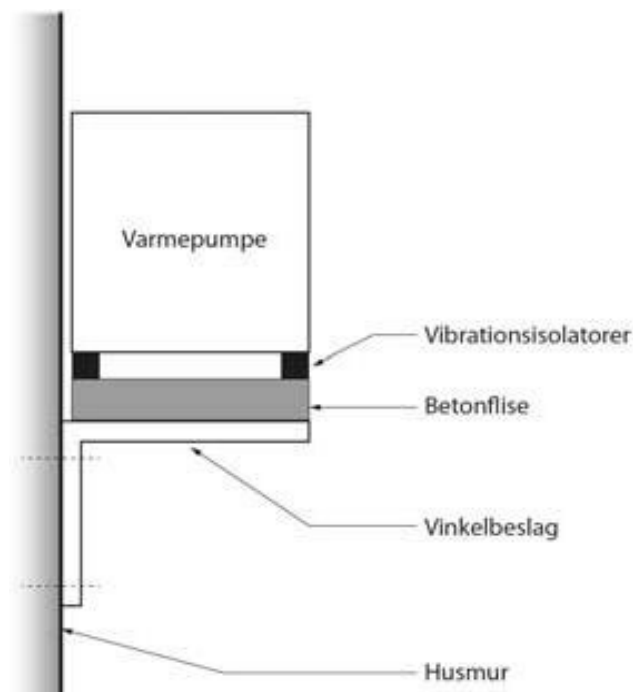

Figure 2-14: Example of heat pump suspension
- If you use exceptionally hanging brackets or a light floor to support the heat pump, you can advantageously put e.g. a thick concrete tile under the heat pump's vibration insulators (see Figures 2-14 and 2-15)